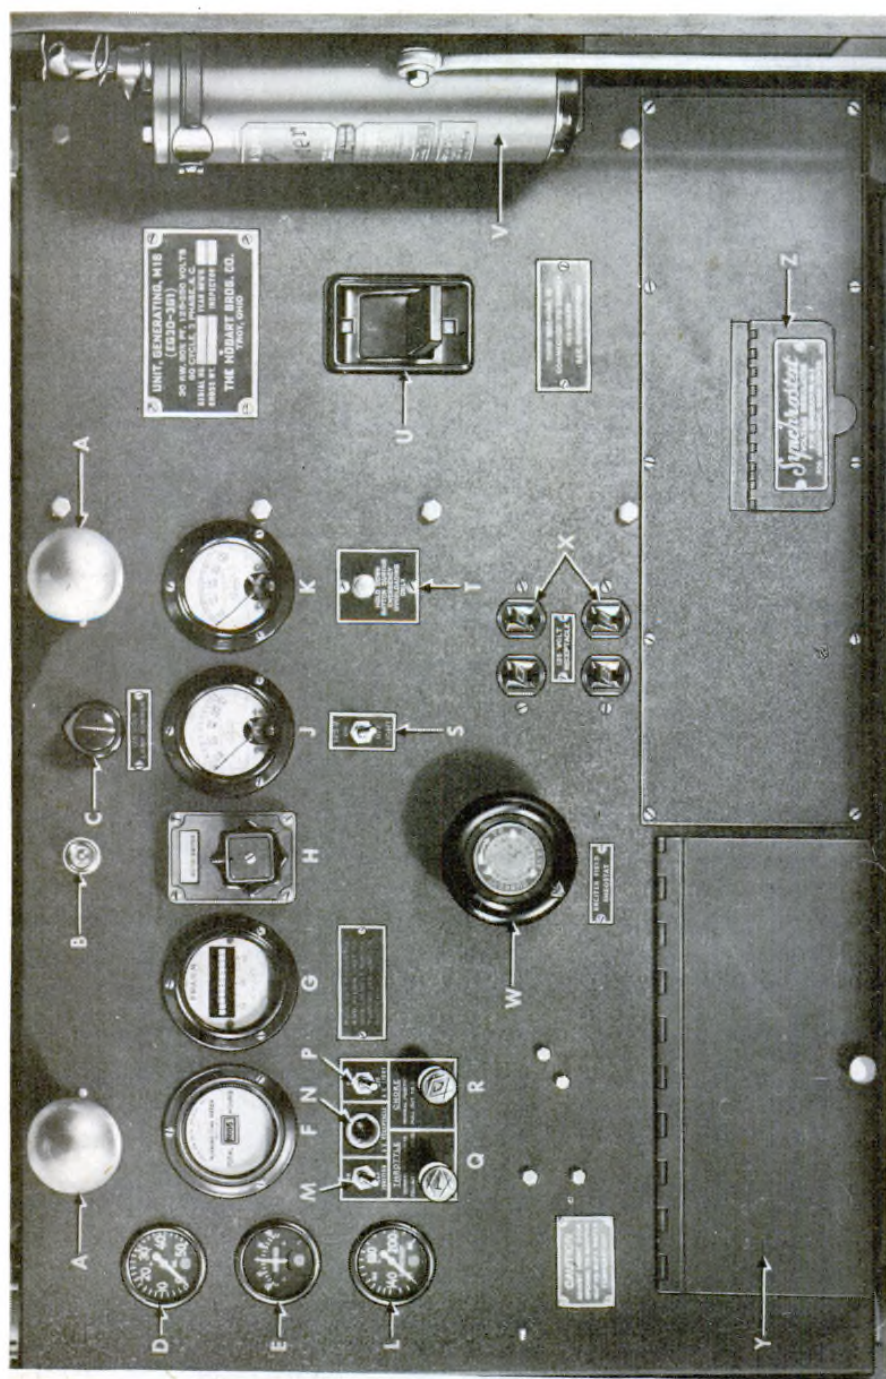

Figure 7 – Instrument Panel
Legend for Figure 7 — Instrument Panel
5. ENGINE AND GENERATOR CONTROLS (fig. 7).